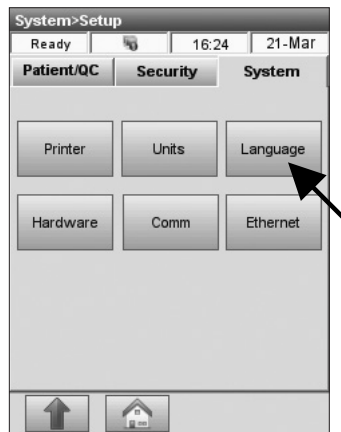

Fig. 3-79 Select Language
2. In the **<System Setup>** menu, press the **<System>** tab and then **<Language>** (Fig. 3-79).